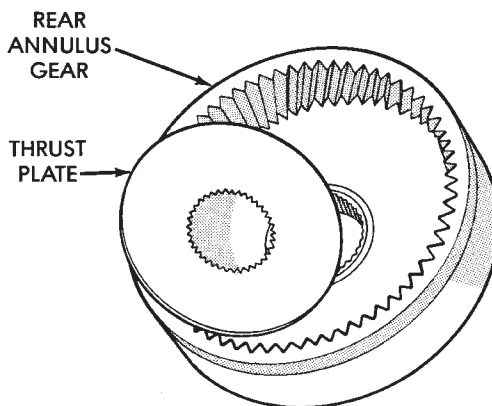

Fig. 178 Rear Annulus Thrust Plate Removal
(8) Remove thrust plate from rear annulus gear (Fig. 178).